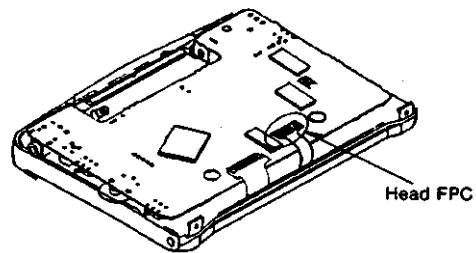

Fig. 3
2. Unsolder the head FPC. (6 points.) (See Fig. 3.)